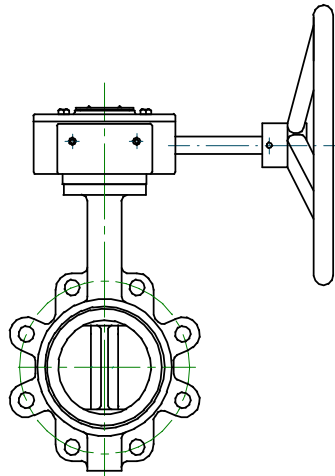

FIGURE 6. GEAR OPERATOR INSTALLATION POSITION
- Step 3. Next, line-up the valve stem with the gear operator bore and slide the gear operator onto the valve with the handwheel pointing to the right of the valve when looking at the nameplate (Figure 6).